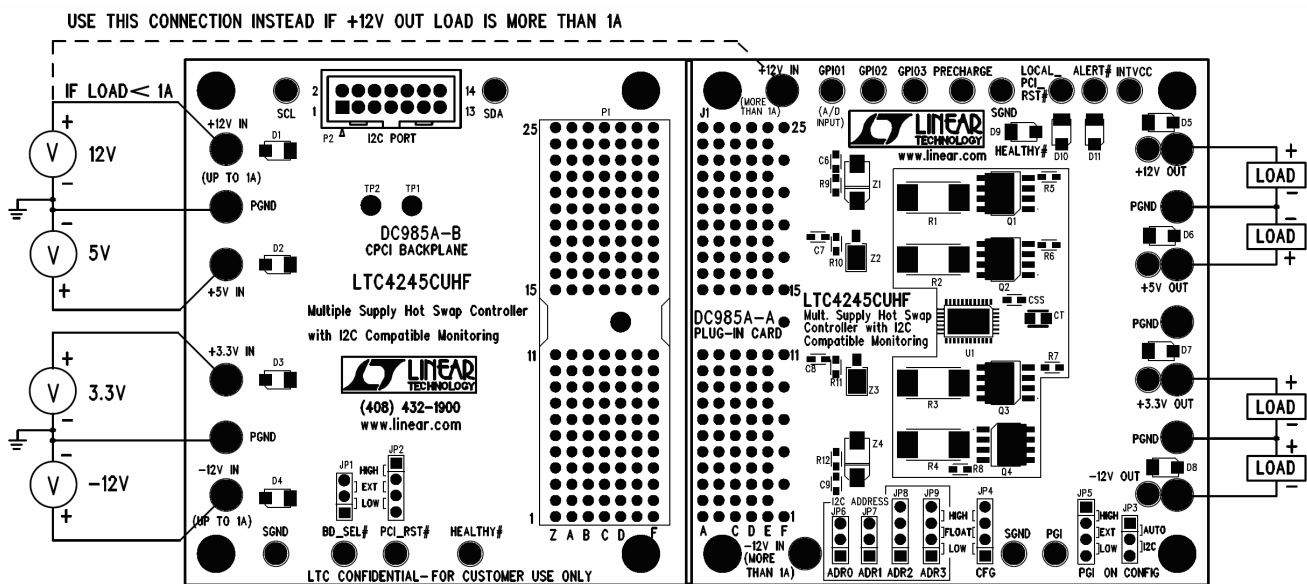

Figure 1. Proper Measurement Equipment Setup
- With the power off, connect the input supplies and output loads as shown in Figure 1. If -12V supply is not being used, ground -12V IN and -12V OUT turrets.